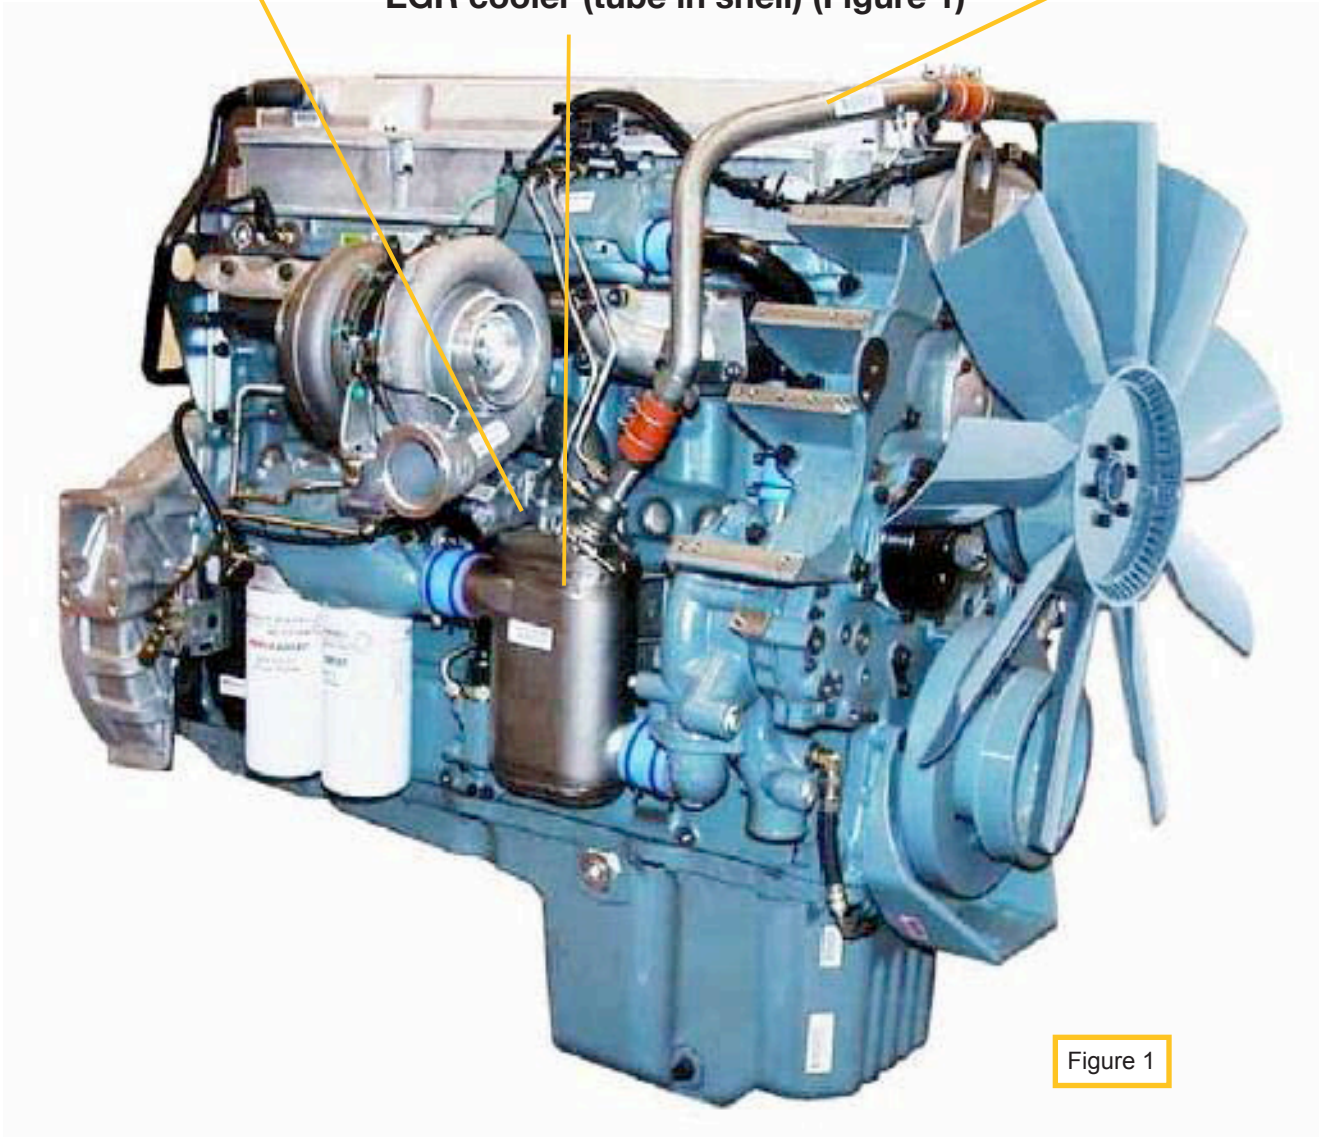

Figure 1
- EGR valve hot side (Figure 1)
- EGR cooler (tube in shell) (Figure 1)
- EGR cooler outlet pipe (Figure 1)